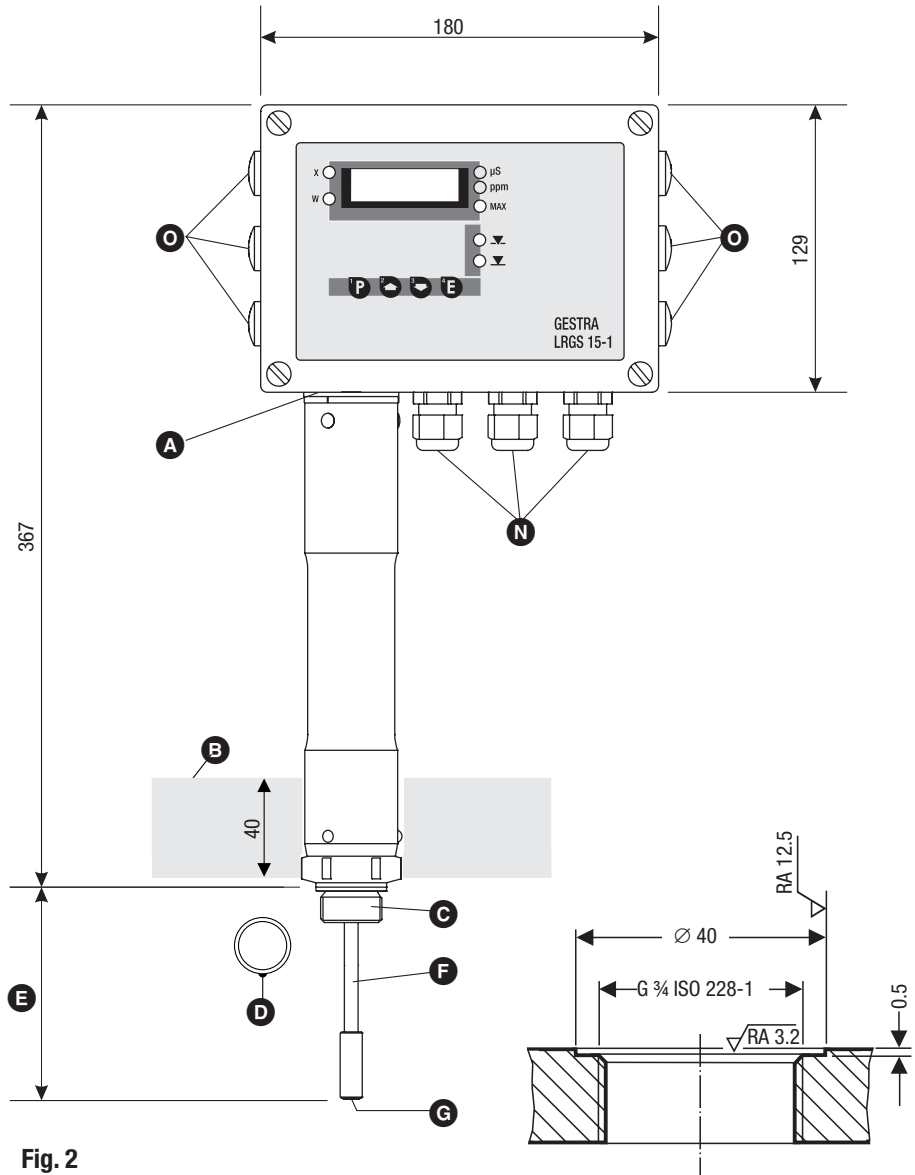

Fig. 2
- Note that the measuring surface of the measuring electrode **Fig. 2** must always be in contact with the fluid.
- Make sure that there is a distance of at least **50 mm** between the measuring surface and the boiler wall, the smoke tubes, other metallic installations and the min. water level (LW).
1. Check sealing surfaces of boiler standpipe or flange (see **Fig. 2**) and, if necessary, re-finish them as specified in the drawing.